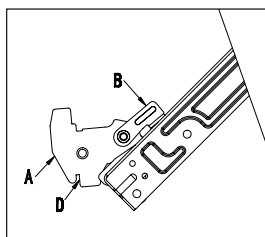

Fig.11-1
1. Open the door completely and lift the 2 levers "B" (fig.11-1);